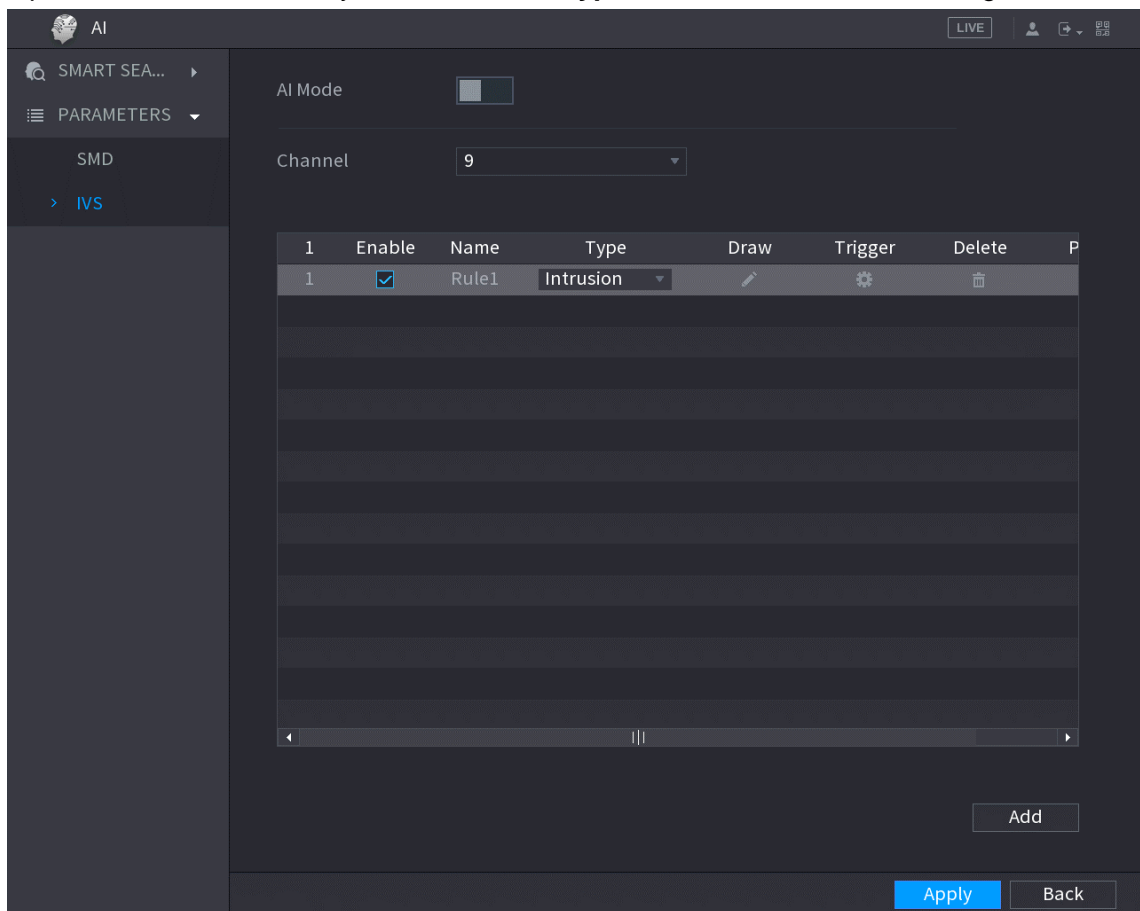

Figure 5-185
Step 1 On the rule line that you added, in the **Type** list, select **Intrusion**. See Figure 5-185.